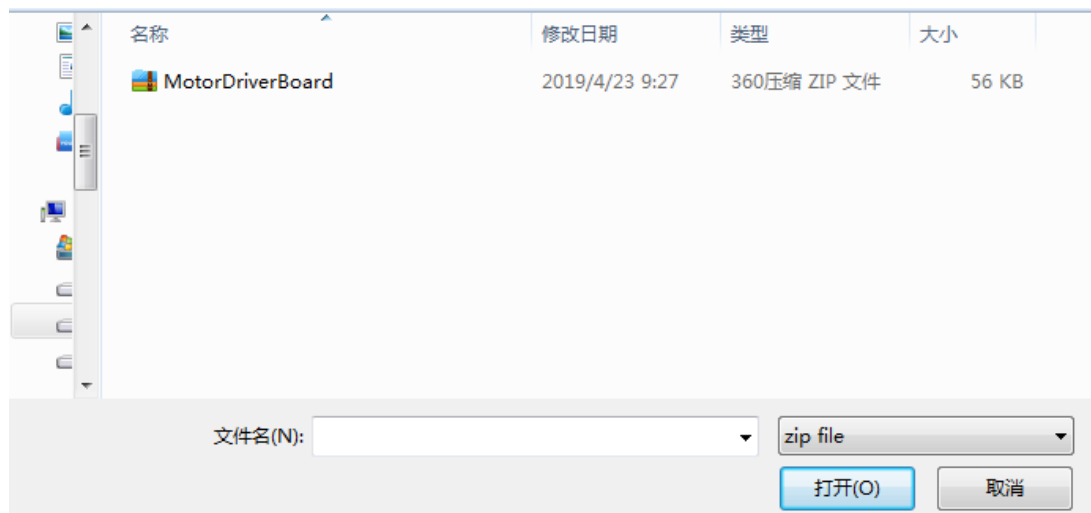

Figure 2-3
- 4) Select “Zip.file” for the file type, then select “MotorDriverBoard” and click “Open”, as shown in Figure 2-3.